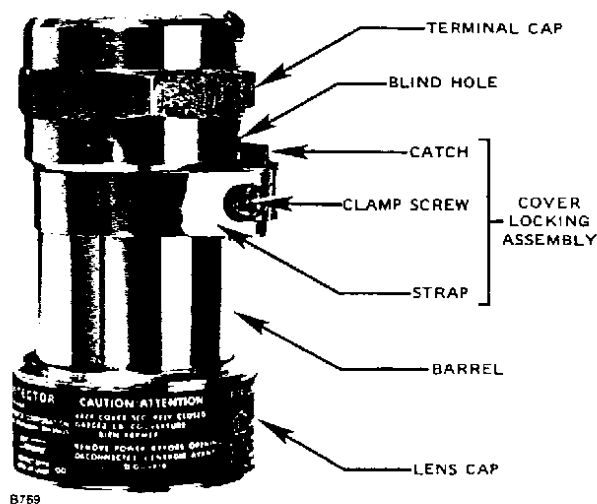

Figure 20—C7050 Detector with Cover Locking Assembly
5. Replace the detector housing. If the detectors are equipped with cover locking devices, loosen the clamp sufficiently so that the "catch" can be seated in the blind hole provided on the terminal cap. (See Figure 20.) The clamp must then be fastened securely around the detector barrel by tightening with the proper tool.